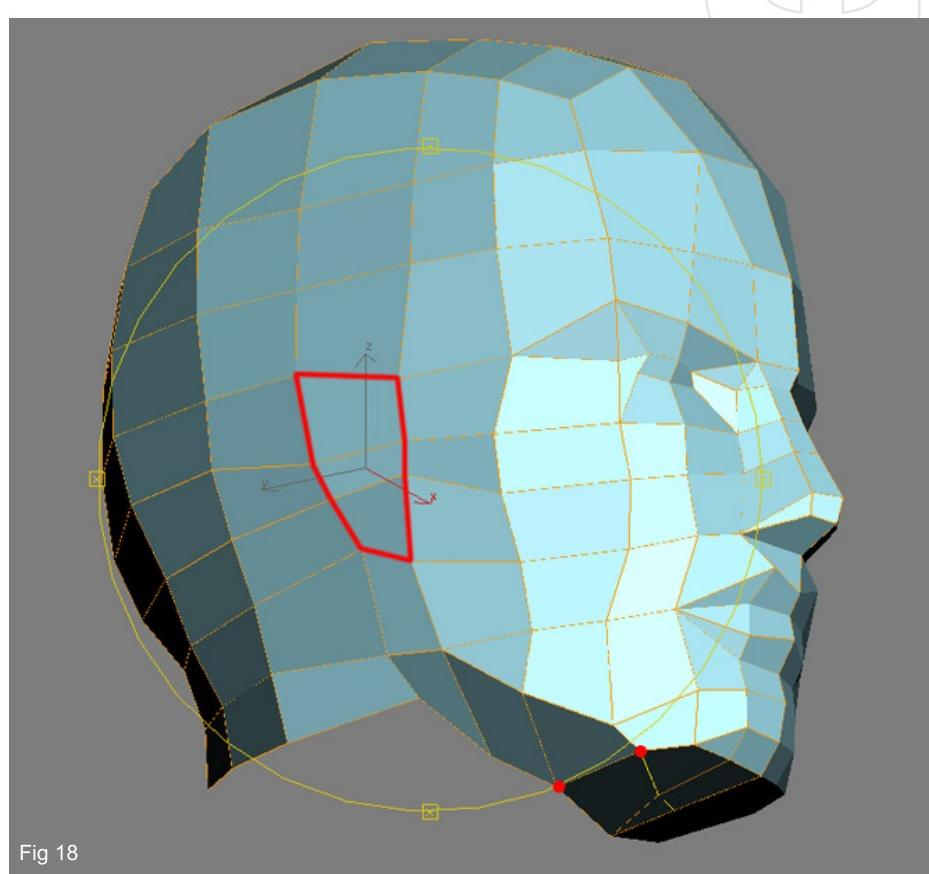

Fig 18
18. To economise further weld two more verts to the outside edge as shown by the red dots in Fig18. With this complete it is now time to create the ears so start by moving the verts into positions that resemble a rough shape as seen by the red outline.